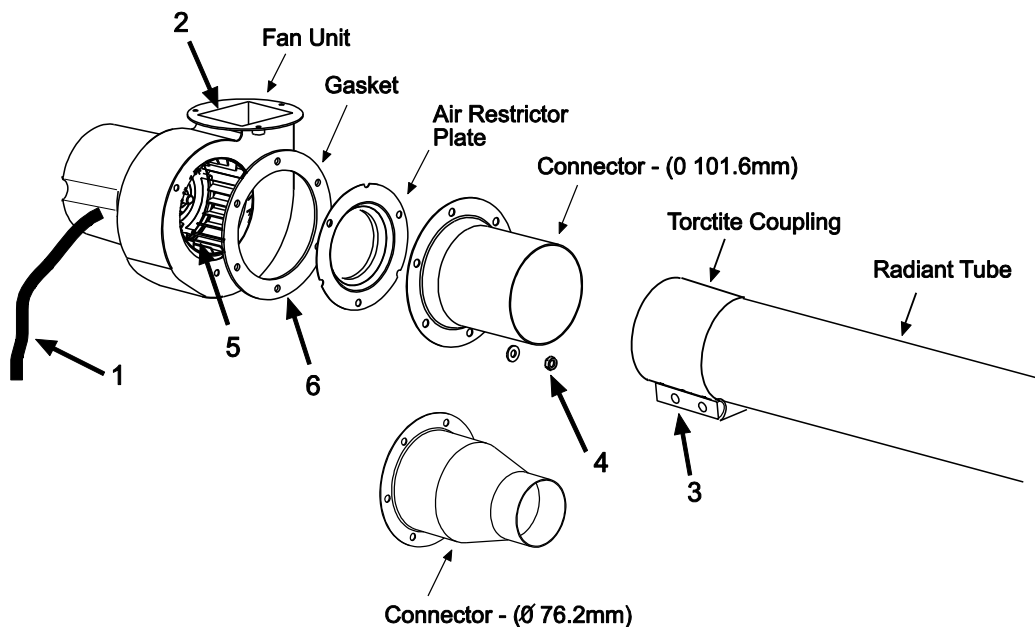

Fig. 55
6. When re-assembling the Orifice Plate and Connector, a new Gasket must be fitted between the Fan housing and Orifice Plate (see Fig. 55).